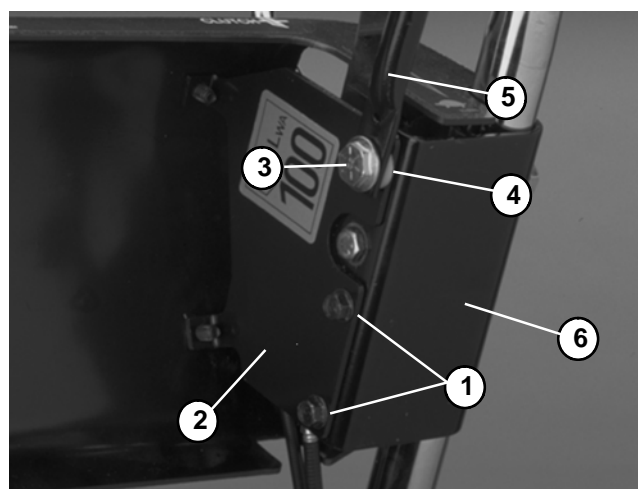

Figure 10
6. Gain access to the throttle lever and throttle cable as follows (Fig. 10):
2. Reinstall console bracket to the clutch skid bracket. Secure brackets with both screws (Fig. 10).
3. Secure bail assembly and spacer to the clutch skid bracket with the shoulder bolt (Fig. 10).